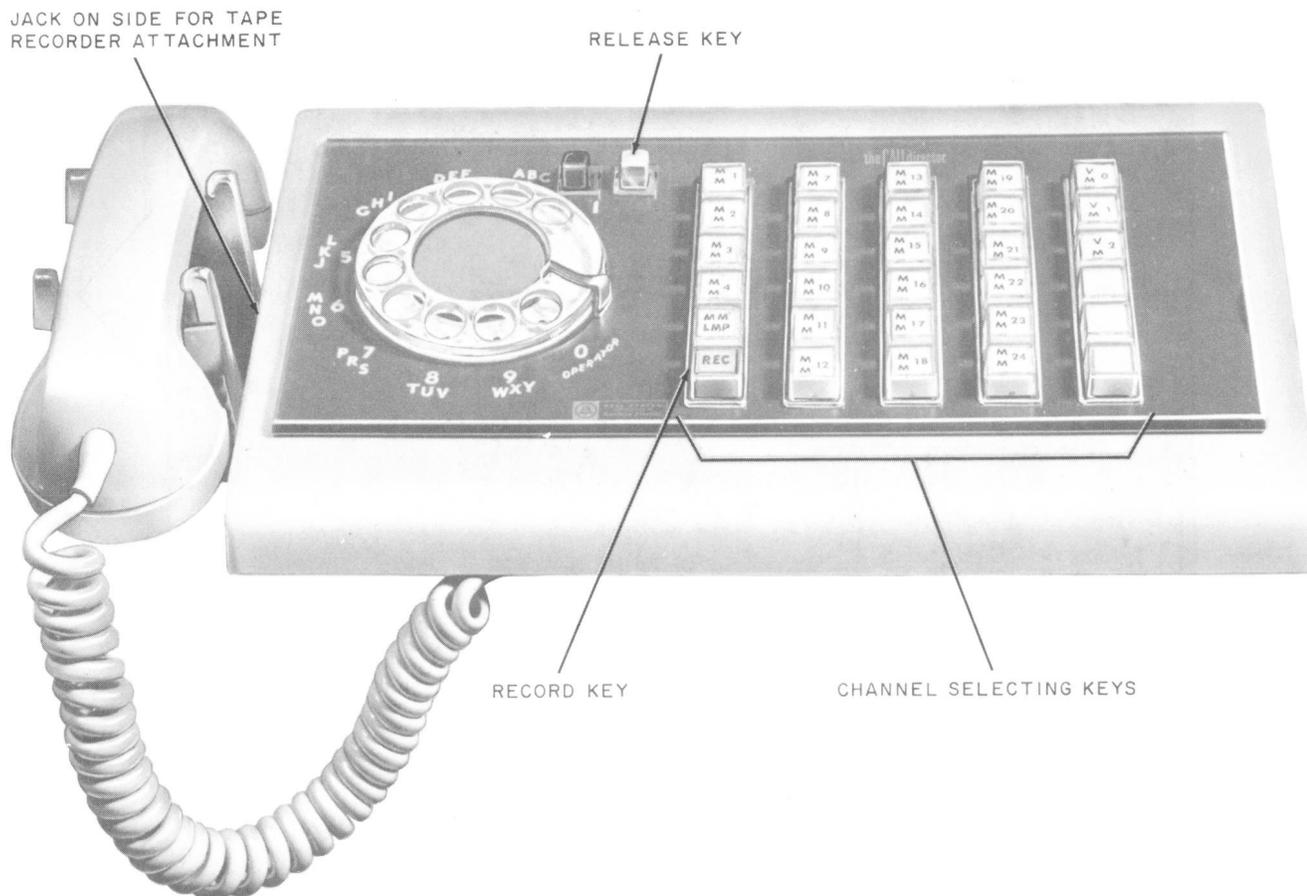

Fig. 4—The 637EA13—Call Director Dedicated Telephone
3.05 Remote Recording: Recordings can be made on the CSRAF from a remote location with a dedicated telephone (CALL DIRECTOR®) (Fig. 4).
(1) Request that no operations be made at the frame during the recording procedure.
(2) Lift the handset of the dedicated telephone (Fig. 4).
(3) Select the channel to be recorded by depressing the proper channel selection key (MM channel number) on the dedicated telephone.
(4) Monitor the existing message on the selected channel for verification of correct channel selection.
(5) Depress and hold the REC key. The MM LMP lamp will flash every 1.33 seconds. Record an identical message three times consecutively, starting each recording with each of three consecutive lamp flashes. Release the record key immediately after the last message.
(6) Monitor at the handset for message verification and repeat recording procedure if necessary.
(7) Depress the RLS key and place the handset on hook.
(3) Select the channel to be recorded by depressing the proper channel selection key (PM channel number) on the dedicated telephone.